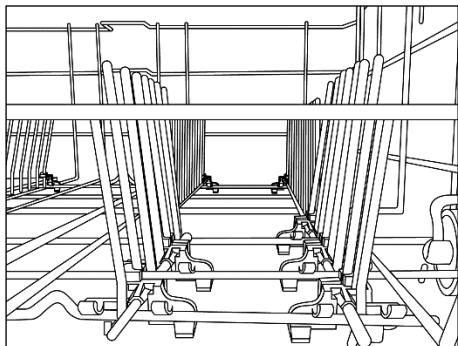
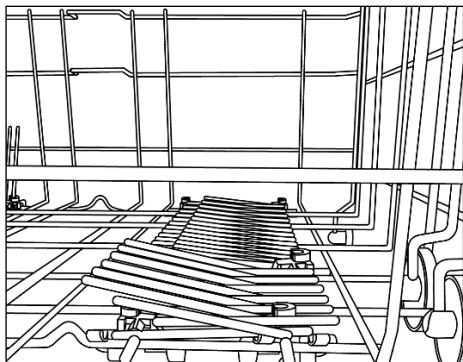

Figure 2
Figure 3
- The dishwasher is fitted with 3/4" threaded connector (fig. 2).
- **WATERBLOCK (fig. 3)**
- Then slowly release into the correct position (fig. 2).
N.B.: NEVER LIFT OR LOWER THE BASKET FROM ONE SIDE ONLY (fig. 3).
In the lower basket you can find the foldable racks (fig.2 and fig.3) useful to provide the best stability to the dishes. With not standard dimension and/or shape ones you can raise/lower the racks to guarantee maximum load flexibility.
- For ease of cleaning, the central container is removable (fig. 2).
- Remove the gauze filter (fig.3) and wash the whole unit under a jet of water. If necessary a small brush can be used.